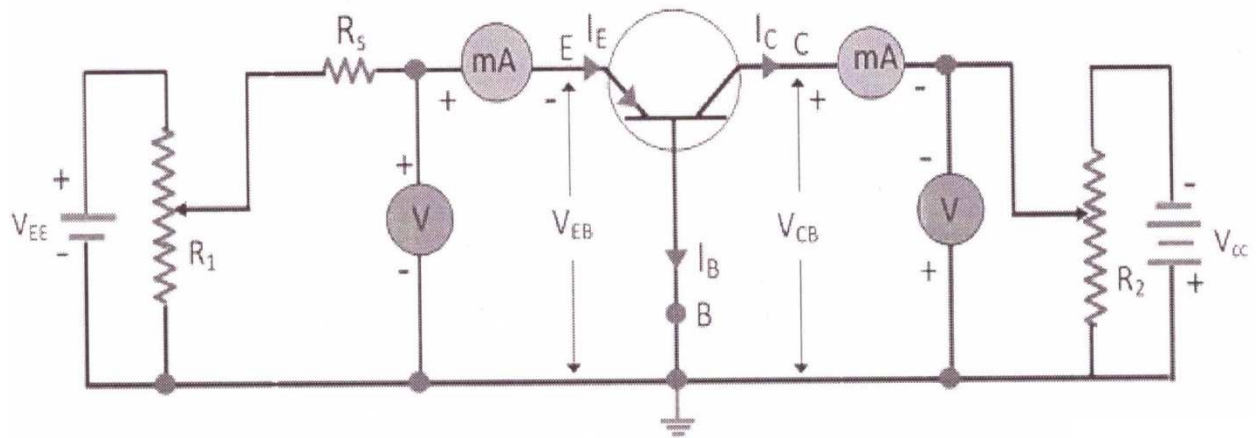

Figure 2
The curves representing the variation of current with voltage in PNP transistor is called transistor characteristics. In Common base configuration the base is made common to both input and output. The circuit diagram of PNP transistor is presented in figure 2. In circuit the base-emitter junction (input circuit) is kept forward bias while base-collector (output circuit) junction is kept reverse bias. The voltage gain in this configuration is low and less than unity while voltage gain and power gain is high.
Two P regions have mobile holes (positive) as majority and electrons (negative) as minority, while in middle section N region have mobile electrons (negative) in majority and holes (positive) as minority. As shown in figure 2, the P-N junction (emitter base junction) is made small forward bias and N-P junction (base collector junction) is made reverse bias. Under the forward bias the holes in emitter move toward base, while electrons move toward base to emitter.
34. Make connection as shown in figure 2.